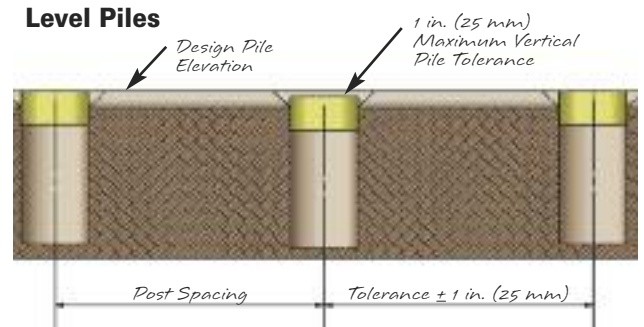

Figure 8: Pile Construction Tolerances
- When drilling the holes keep in mind that hole positioning is critical. A maximum allowable deviation of ± 1 in. (25 mm) for the pile cap is allowed for the horizontal locations. *See Figure 8.*
- Place the concrete form in the hole, making sure that the center of the concrete form is in alignment with the centerline of the AB Fence to ± 1 in. (25 mm), see Figure 8.
- During the pour of each pile, ensure that the concrete form is braced to maintain the correct elevation and horizontal location. Double check with laser and hand levels to maintain tolerance; minor adjustments will have to be made during the pour. See *Figure 8*.